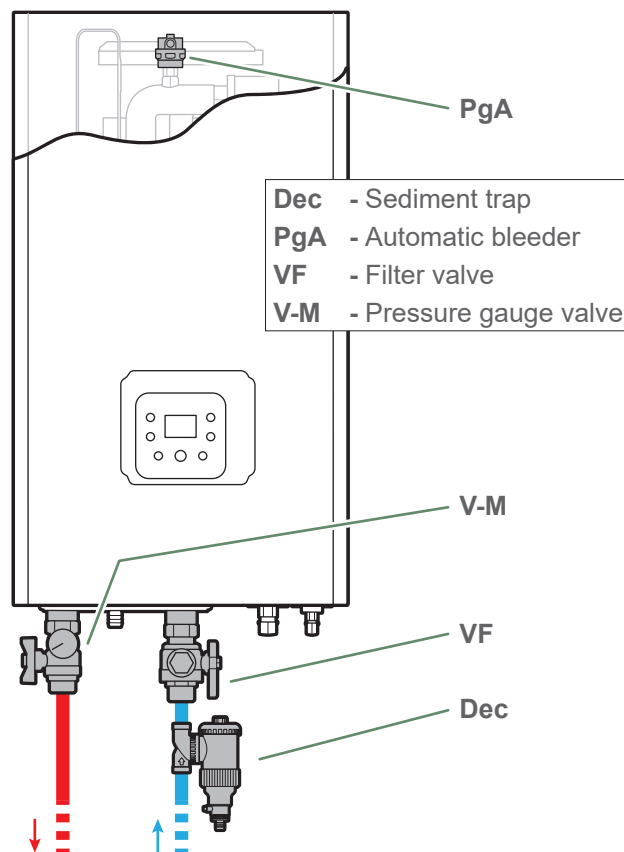

fig. 33 - Sediment trap (optional) on the heating return flow
- Install the valve filter on the heating return circuit in the manner suggested (ref. **VF**, *fig. 33*).